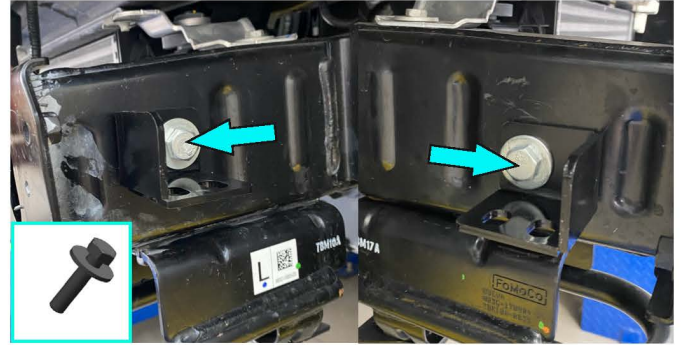

Fig.19
19. Install brackets for reinforcement (item 26, 27) on both sides of the frame using bolts M10x30, washers 10 (item F, L) (fig.19).